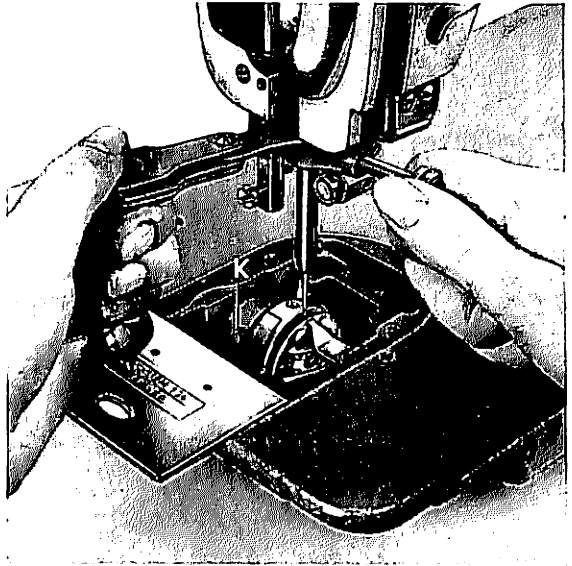

Fig. 29
Begin by removing the needle plate and setting lever **H** in notch **II** and knob **G** on "0" (Fig. 20). Rotate the balance wheel until the needle has reached the lowest point of its stroke. Slip both the needle rise gauge (5/64", or 2.0 mm, thick and the clamp onto the needle bar, push the clamp up against the gauge until the latter contacts the needle bar frame, and tighten the clamp screw securely (Fig. 29).
Then pull out the gauge and cautiously turn the balance wheel until the clamp contacts the needle bar frame (Fig. 30). Loosen set screws **K** and **T** (Figs. 29 and 30, respectively) and rotate the sewing hook on its shaft until its point is opposite the center line of the needle.
2. Loosen hook set screws **K** and **T** (Figs. 29 and 30).